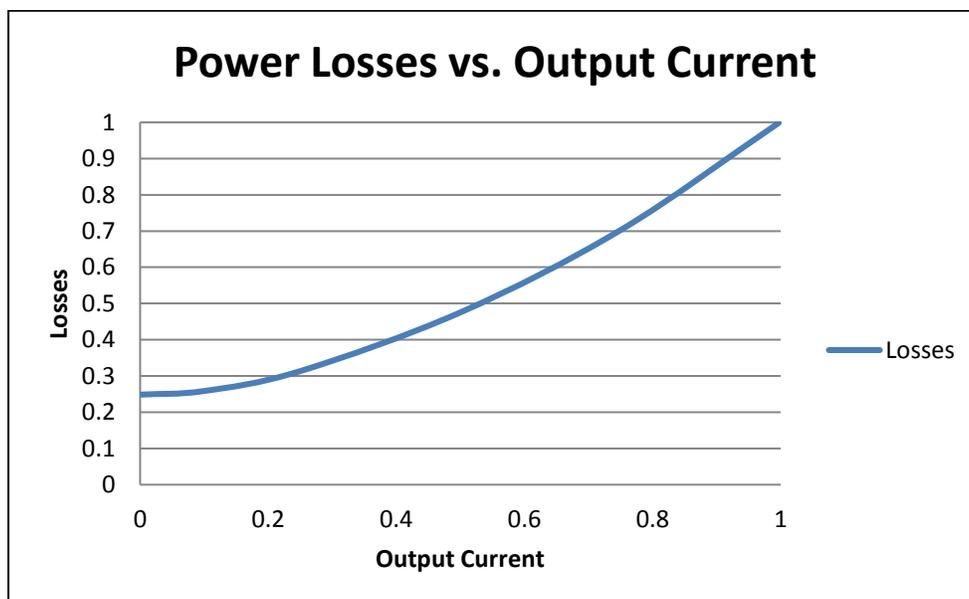

Figure 1.5: Power Losses vs. Output Current
Not only does the Mesta DPM have extremely high performance, but it achieves it at industry leading power efficiency. A 300 Amp DPM operating at full capacity of cancelling 300 amps of harmonics on all 3 lines typically dissipates 5100 watts of power. Other Active Harmonic Filter systems on the market dissipate as much as an additional 5000 watts or more under the same conditions. A Mesta unit operating 24/7 at these conditions results in almost 44,000 KW-hrs less in power losses in a year. At an average rate of 10 cents per KWH, this represents a savings of \$4,400 in utility costs in a year. Of course, you may not need the full rated capabilities of the DPM 24/7. In the case of a system operating at less than full operating capacity, the Mesta DPM still offers industry leading efficiencies. Figure 1.5 shows typical Losses vs. Output Current. In this graph, the horizontal axis shows the Output Current of a DPM normalized to the full load current (e.g. for a 300 amp DPM, 1 represents 300 amps, 0.5 represents 150 amps, etc.). The vertical axis shows the Losses of a DPM normalized to the full load losses (e.g. for a 300 amp DPM, 1 represents 5100 watts, 0.5 represents 2550 watts, etc.). This graph shows that a system operating at 50% of the rated current will have about 50% of the full rated power losses.
There is also the case where a facility may shut down for several hours in a day. As can be seen in Figure 1.5 there are appreciable losses when no corrective current is being supplied by the DPM. Such
- If air conditioning is needed to cool the room where the unit is to be installed, make sure the power losses of the unit are incorporated into the air conditioning needs. Power losses of the unit at full load can be found in the specifications for the unit. In addition, if the unit will operate at less than full load, Figure 1.5 can be used in conjunction with the full load loss information to determine actual power losses.